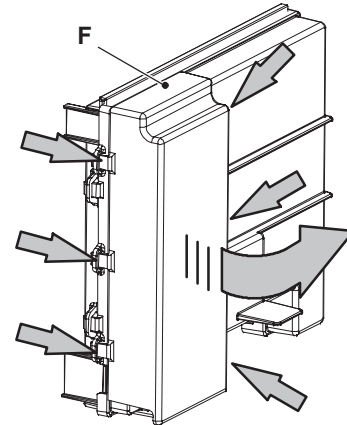

Figure 2.7
- 2 To remove the terminal block lid F (Figure 2.7), free the front
- 6 Remove the terminal block lid F (Figure 2.7).